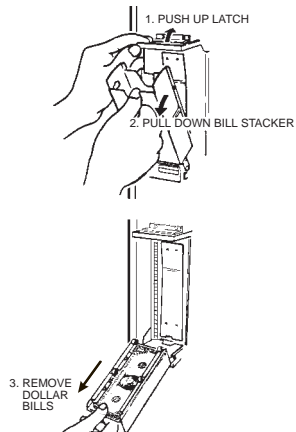

Figure 3-1. Removing a Dollar Bill From The Bill Validator
3. Empty the bill validator (figure 3-1).